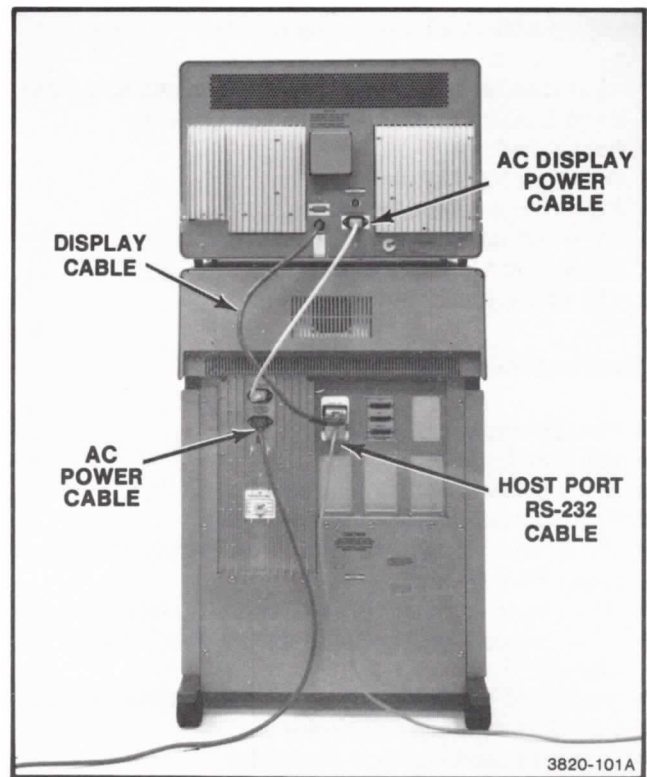

Figure 2-2. Power, RS-232, and Display Cables.
1. Refer to Figure 2-2 and attach the display cable to the pedestal. Tighten alternately the screws on either side of the cord. Use a small, flat-bladed screwdriver to tighten the screws.